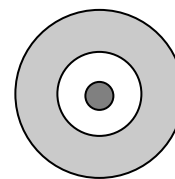

Figure 5
- 2) Then, as the Z-stage is gradually lowered by the thickness of the lens under measurement, the front surface will now come into focus in the position shown in Figure 5, and a spot, formed.